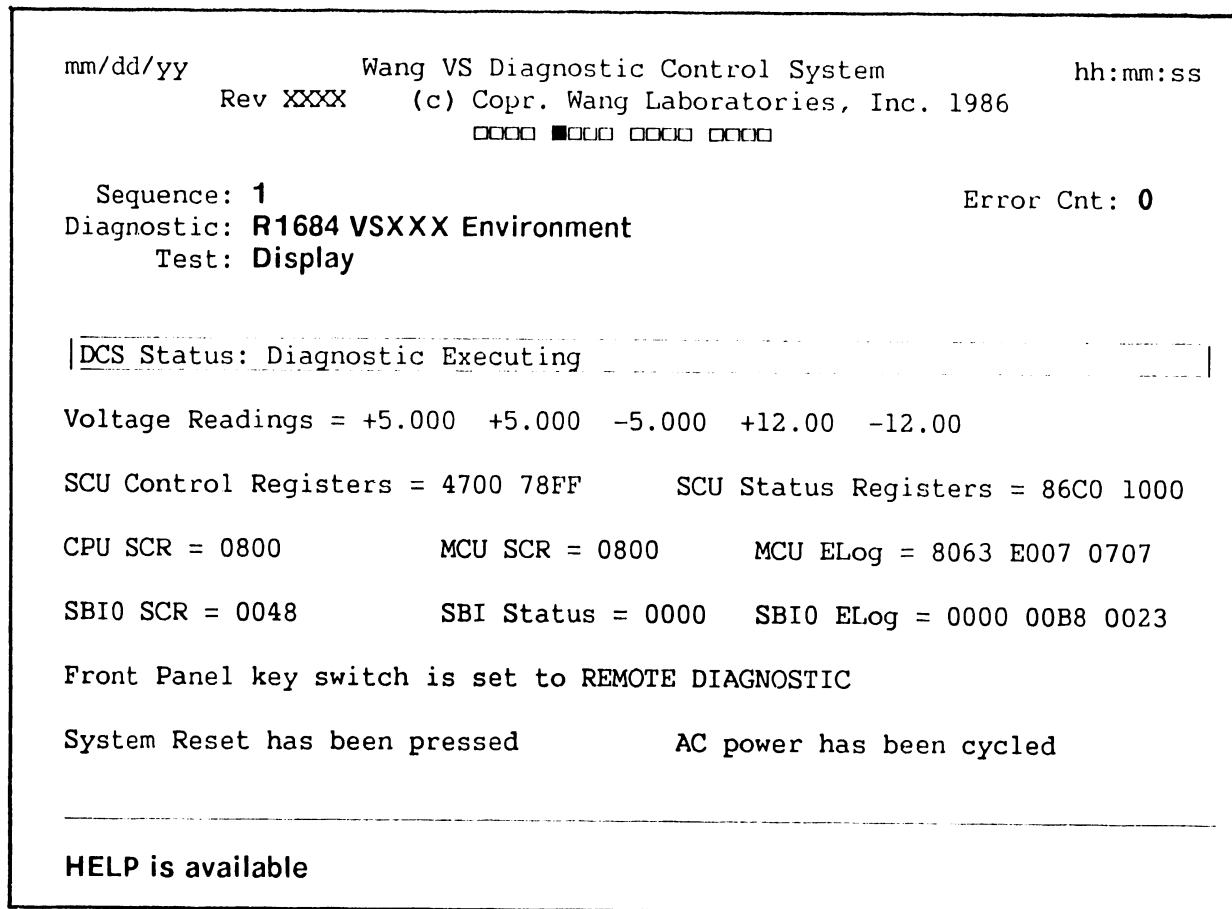

Figure 8-4. Environment Test Screen
5. From the DCS Diagnostic Selection Menu, select the VS Environment. (Figure 8-4).
- Look at the Environment Test Screen on the Support Control Unit (SCU) screen. (Figure 8-4.) The voltages in table 8-4 appear on the screen.